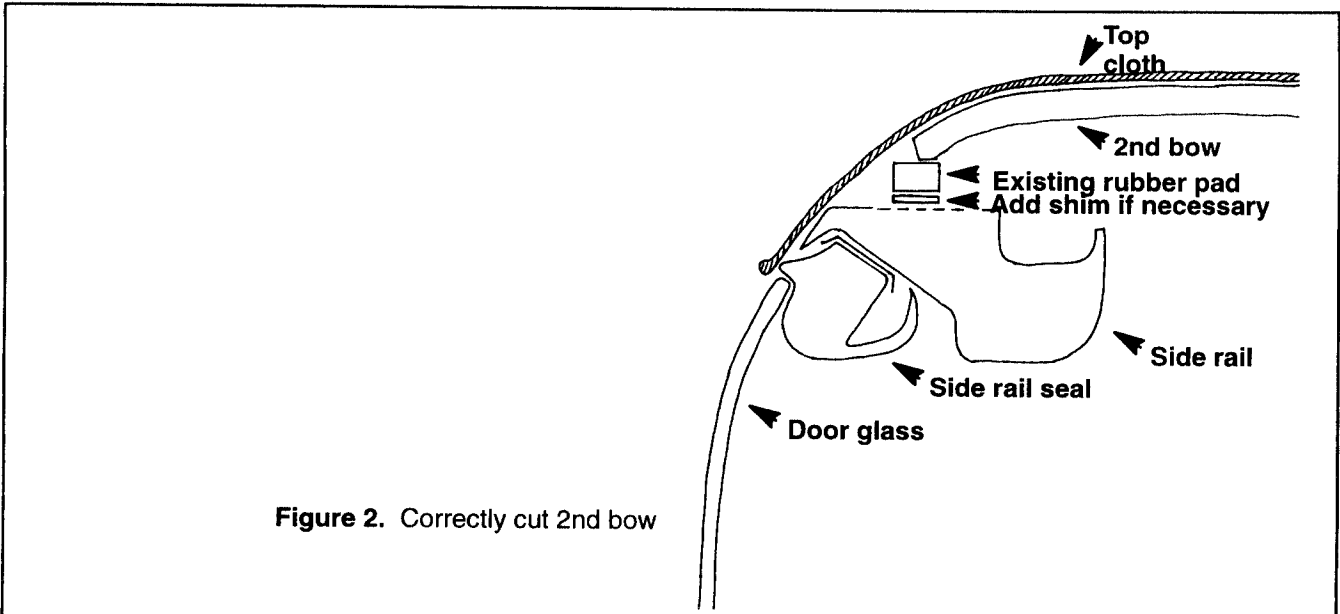

Figure 2. Correctly cut 2nd bow
- If it is correctly cut, the remaining ends should be about 5mm wide and rest on the rubber pad of the side rail. See Figure 2.